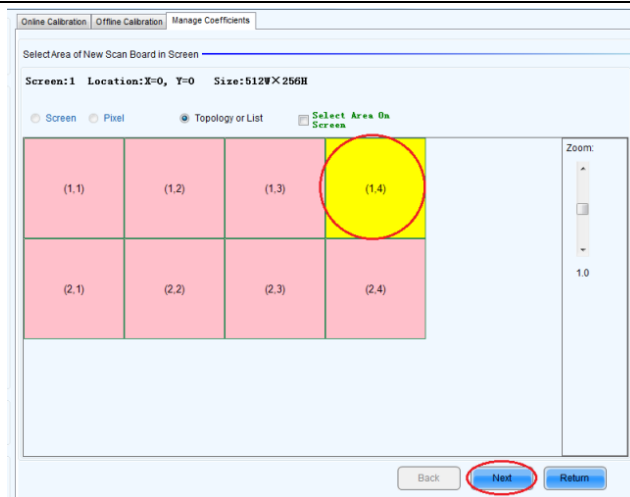

Fig 3-15 Selecting Area for New Receiving Card
- 1) As shown in Figure 3-15, select **Topology or List**. Select the position of the replaced receiving card. Click **Next**: